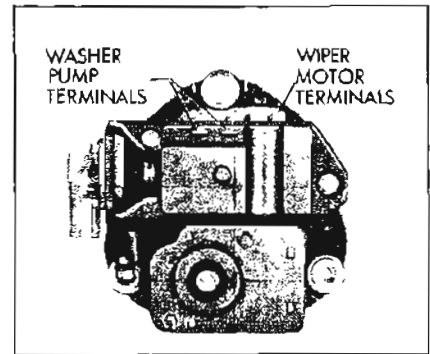

Figure 10-81—Windshield Wiper Motor—Two Speed
3. Move brushes away from armature and slide armature out of frame and field assembly. Pull end cap assembly off armature. See Figure 10-81.